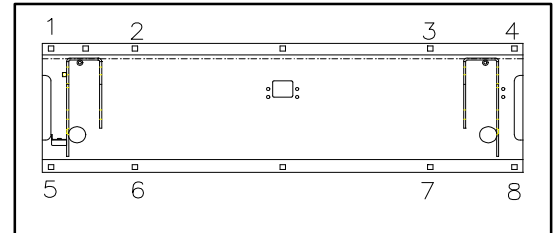

FIGURE 2-5: VAN BASEPLATE HOLES
- 1) Refer to **Figure 2-5**. Mark/drill four 25/64" baseplate assembly mounting holes (1, 2, 3 and 4) through vehicle floor. (On Dodge and GM vans, you must drill through vehicle floor and subframe.)